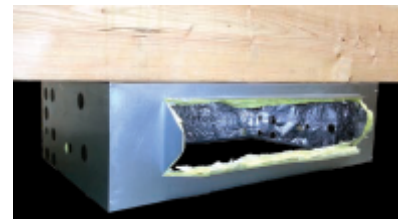

Fig 5.7
5.1.6. Ensure the unit is level to allow for proper condensate drainage (Fig 5.7).